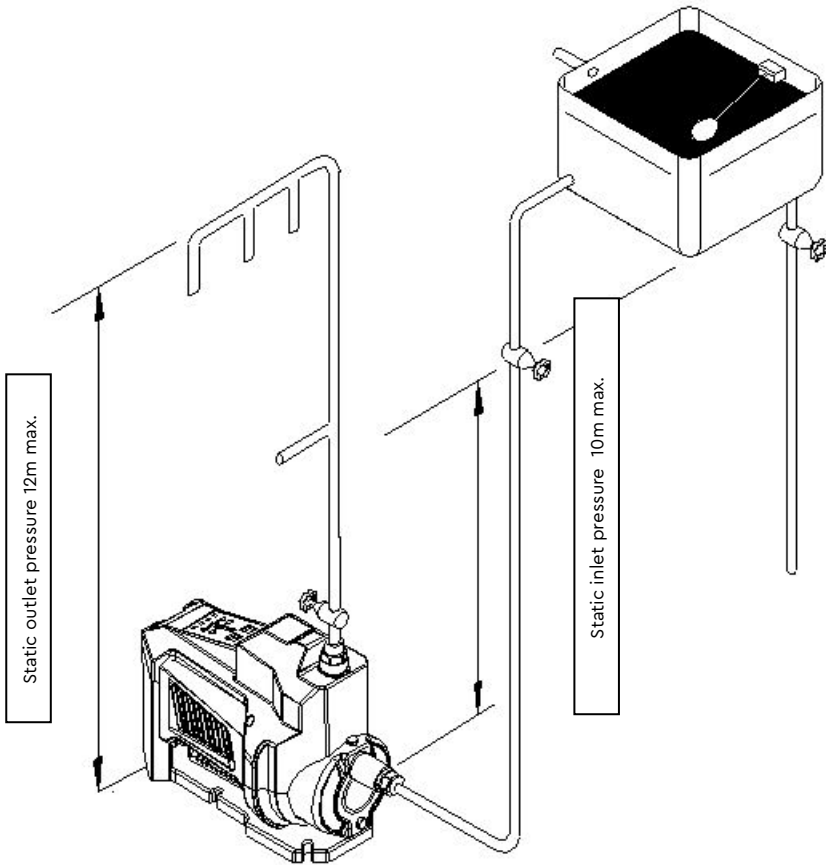

Fig 2.
- 1.6. **Static inlet pressure:** Before deciding where to locate the unit check to ensure the static inlet head between pump and the bottom of the cold water tank (Ref Fig. 2) does not exceed the max inlet head of 10 metres.
- 1.10. **Static outlet pressure:** The static outlet head (Fig 2) must also be within the maximum requirement of 12 metres.